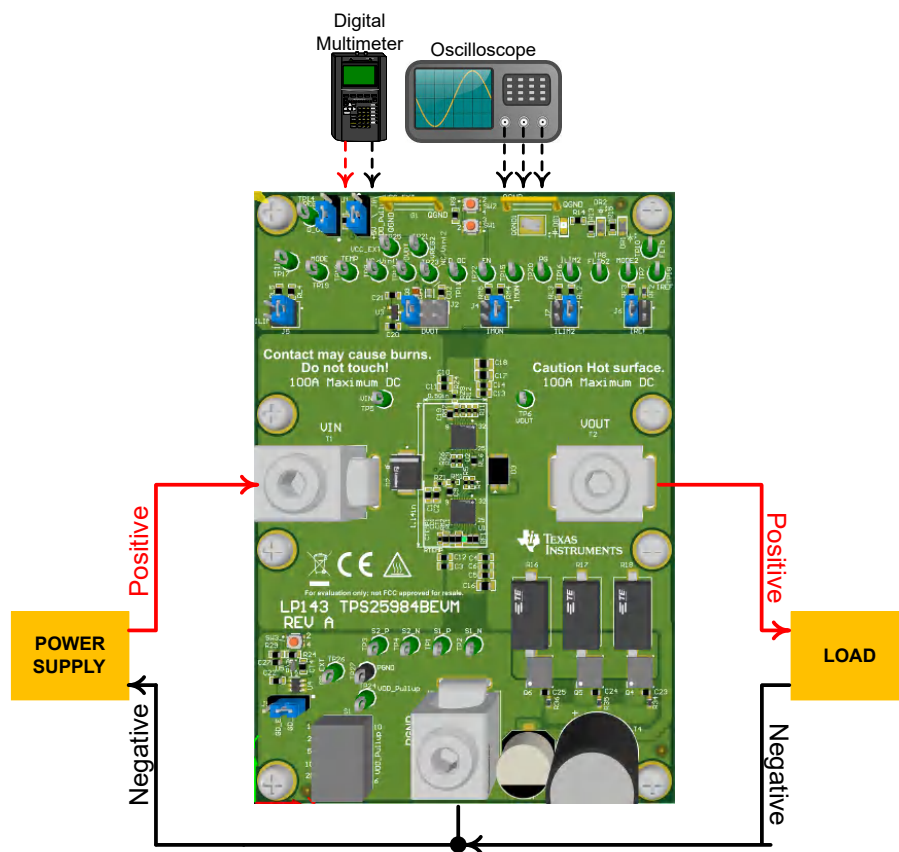

Figure 5-1. TPS25984BEVM Setup With Test Equipment
The TPS25984BEVM enables the evaluation of TPS25984B0 eFuses from TPS25984B family. This EVM has two (2) TPS25984B0 eFuses connected in parallel. The input power is applied across the connectors T1 and T3, while T2 and T3 provide the output connection for the EVM; refer to the schematic in Figure 3-1 and EVM test setup in Figure 5-1. TVS diodes D1 and D2 provide the input protection from transient overvoltages. Schottky diodes D3 and D4 protect the output by clamping the negative voltage excursion at the OUT pins of TPS25984B eFuses within the minimum absolute rating.